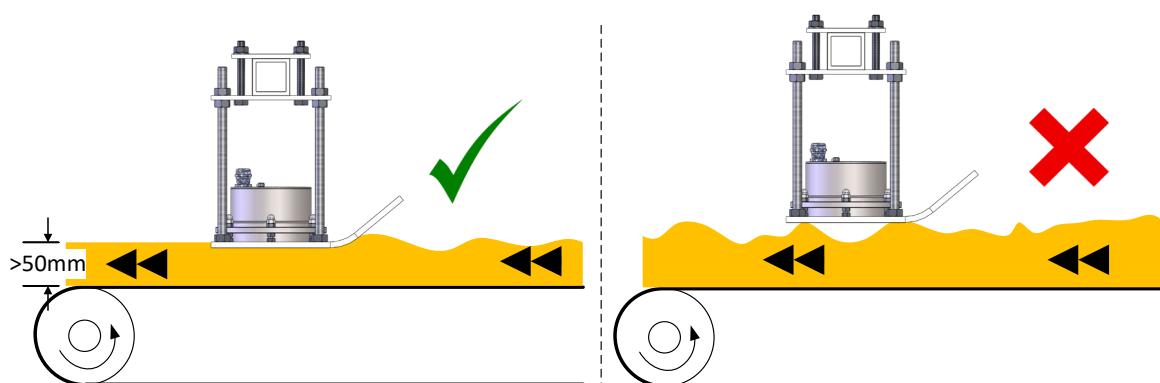

Figure 9: Adjusting the Height of the Hydro-Mix XT Skid
5. Once the belt is running with material the Hydro-Mix XT Skid should be adjusted to allow it to ride on the surface of the material on the belt so it removes any air gaps between the sensor and the material, retaining the 50mm gap to the belt (Figure 9).
6. Ensure a consistent material flow beneath the sensor (Figure 9)